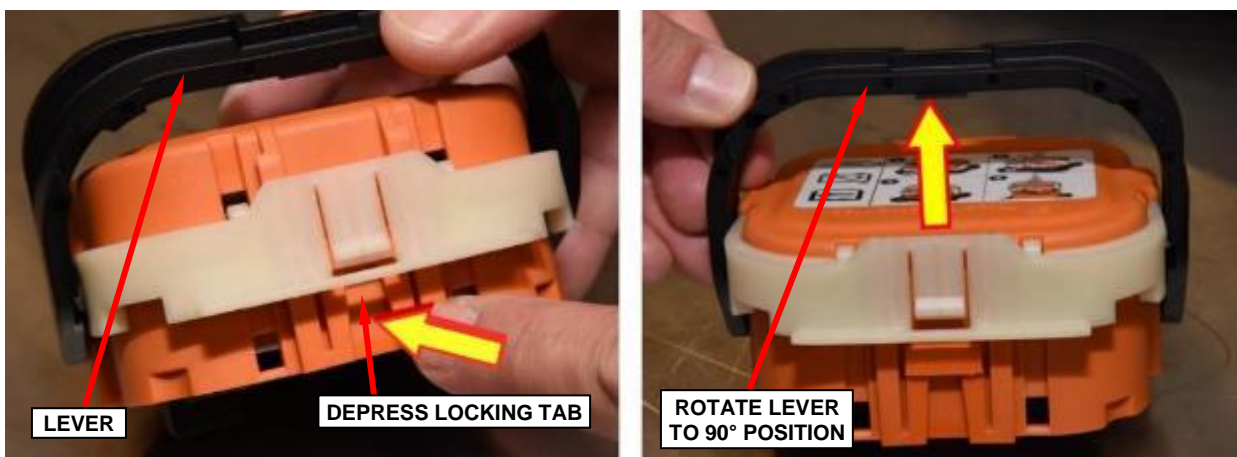

Figure 11 – High-Voltage Manual Service Disconnect Second Stage Latch Release (High-Voltage Manual Service Disconnect Removed from Vehicle for Visual Clarity)
18. Depress the locking tab and continue to rotate the lever to the end of travel, 90° position (Figure 11).